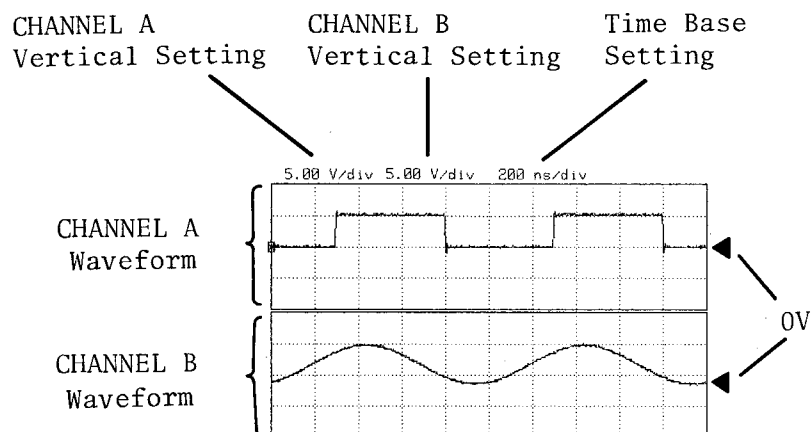

Figure 3-1. Oscilloscope Setup
The troubleshooting aids provide information to help you troubleshoot problems in the HP 4279A. Usually the troubleshooting aids consists of a list of jumpers, a list of test points, and troubleshooting information. The jumper list shows the strapping configuration for each jumper. The test point list gives a description of the signal at each test point. The troubleshooting information includes waveforms for troubleshooting the board, and the measurement setup for viewing the waveform is listed next to the waveform figure. (Refer to Figure 3-1).
- (1) Set the oscilloscope inputs to DC coupled (1 M Ω).
- (2) The settings (using a 1:1 probe) for channel A and B, and the time base setting are displayed with the waveform. (Refer to Figure 3-1). When a 10:1 divider probe is used, the channel A and B settings must be divided by 10.